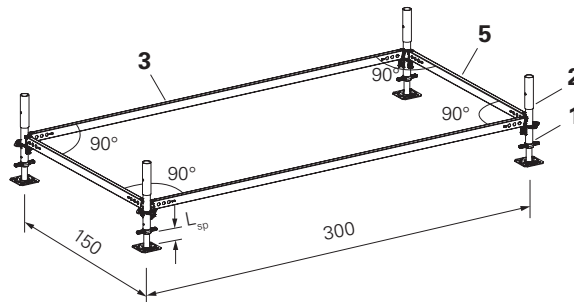

Fig. A3.02
Lsp ≤ 20 cm. (Fig. A3.02)
- All ledgers must be at a 90° angle to each other. (Fig. A3.02)